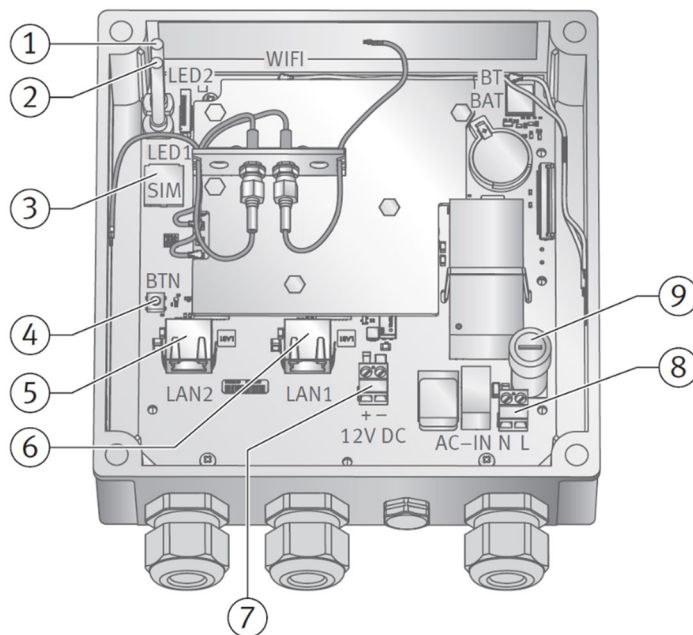

Figure 4 Gateway with the cover opened 1
'Line' and 'Neutral' for AC-IN must be connected as marked on the PCB (see (8) in Figure 4 on page 13). Do not use a wire of section exceeding 1.5 mm² or 16 AWG. Do not strip the cable more than 5 mm. If a flexible wire is used, a ferrule must be used.
2. Open the cover of the gateway. See Figure 4 on page 13 for the location of the SIM card slot.